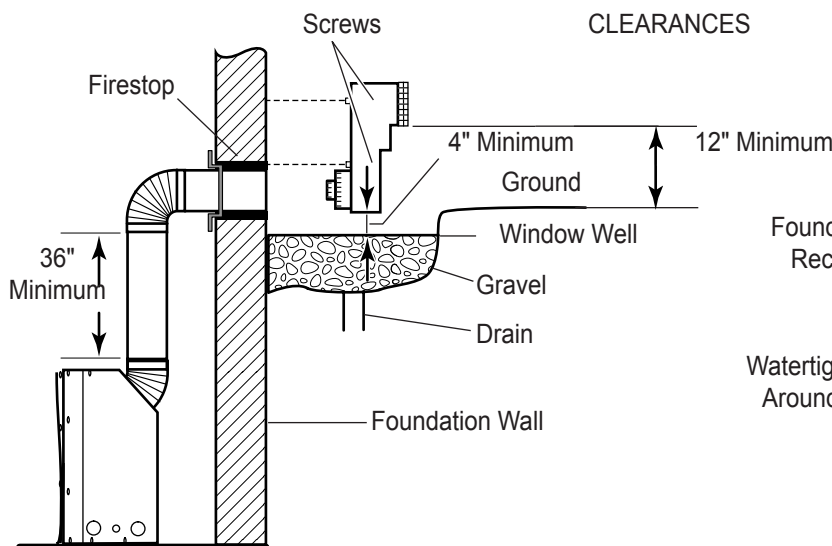

Figure 23 - Below Grade Installation
2. Remove soil to a depth of approximately 16" below base of snorkel. Install drain pipe. Install window well (not supplied). Refill hole with 12" of coarse gravel leaving a clearance of approximately 4" below snorkel. *See Figure 23.*
7. Level the soil so as to maintain a 4" clearance below snorkel. *See Figure 23.*